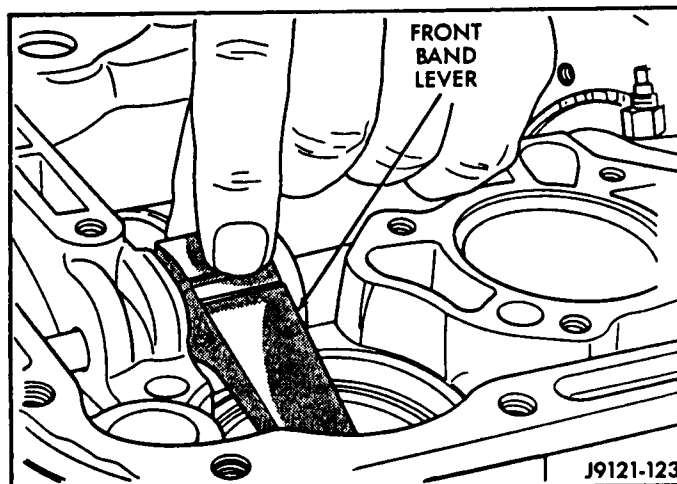

Figure 138
24. Align the front band lever with bores in the case and push pivot shaft all the way into the case (See Figure 138).